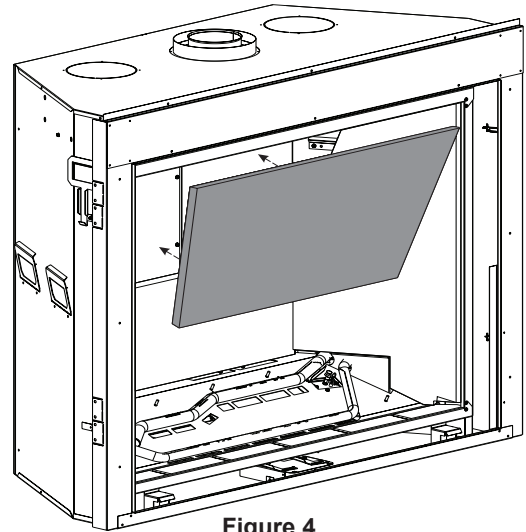

Figure 4
3. Place the LINER REAR - TOP on top of LINER REAR - BOTTOM and rest against right side of FIREBOX and LINER SIDE - RIGHT. (See Figure 4.)